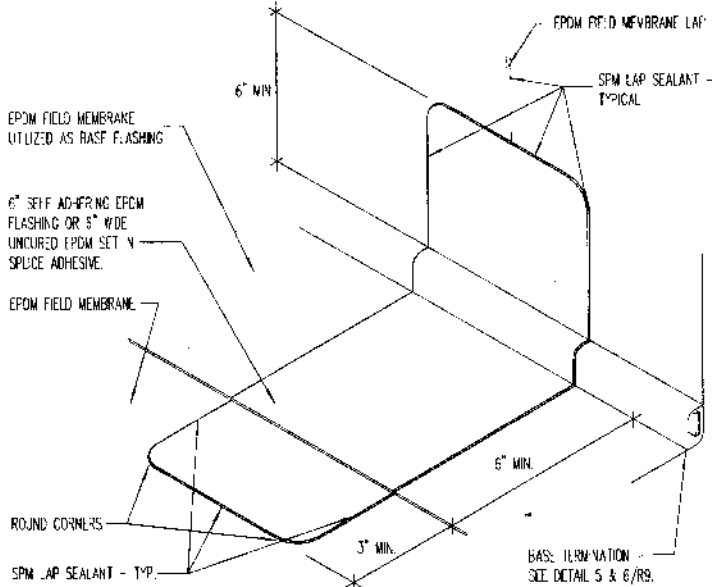

Figure 6B - Roof enhancements with detailing based on in field experience will assure long term service lives.
- All membrane vertical lap joints to be patched at angle change (see Figure 6B).